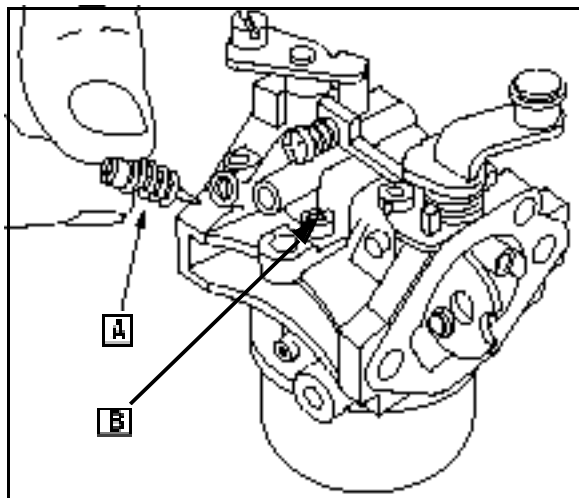

Fig. 64
13. Install pilot jet ([B] Fig. 64). Tighten securely.
14. Install idle mixture screw and spring ([A] Fig. 64). Do not tighten the idle mixture screw.